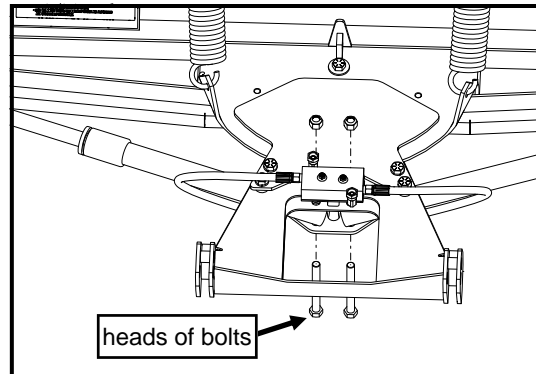

Fig. 5.2—Cylinder Fixed End
**5.2** See fig. 5.2. From below the A-frame, insert 1/2-13 x 4 1/2" long bolts through the lower cylinder brackets of the A-frame, the stationary ends of the angle cylinders, and the upper plate of the plow A-Frame. Place the fixed end of each angle cylinder into its respective bracket under the plow A-Frame. Orient the crossover relief valve block assembly as shown. Place the block assembly on top of the plow A-Frame and over the 1/2" bolts. Fasten and tighten using 1/2-13 lock nuts.